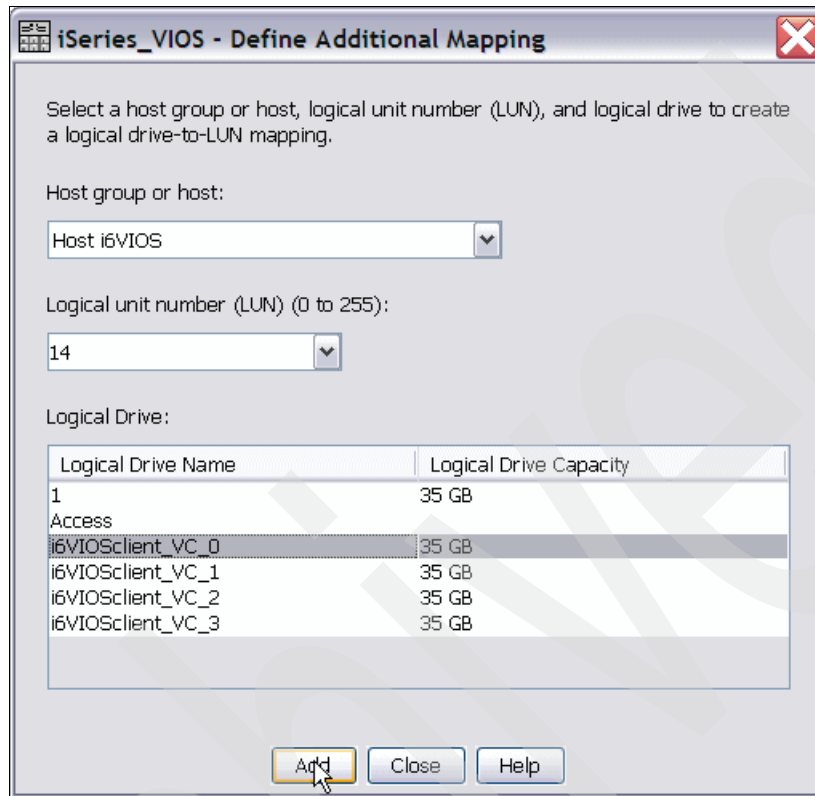

Figure 8-27 Map Volume Copy logical drives to VIOS
9. Connect Volume Copy logical drives to a System i partition. For this you must first map them to a VIOS host. In the Subsystem Management Mappings view right-click **VIOS host** and select **Define Additional Mapping**. Select the LUN ID and the drive to map, and click **Add**, as is shown in Figure 8-27. Repeat this step for each Volume Copy logical drive.